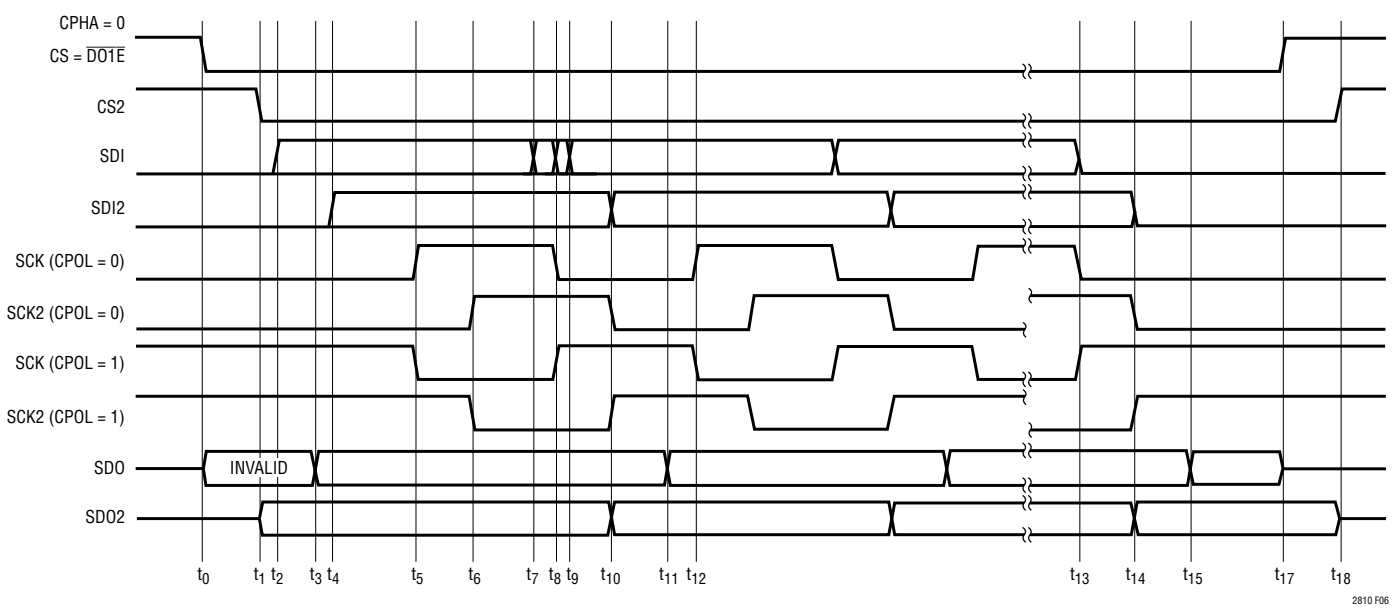
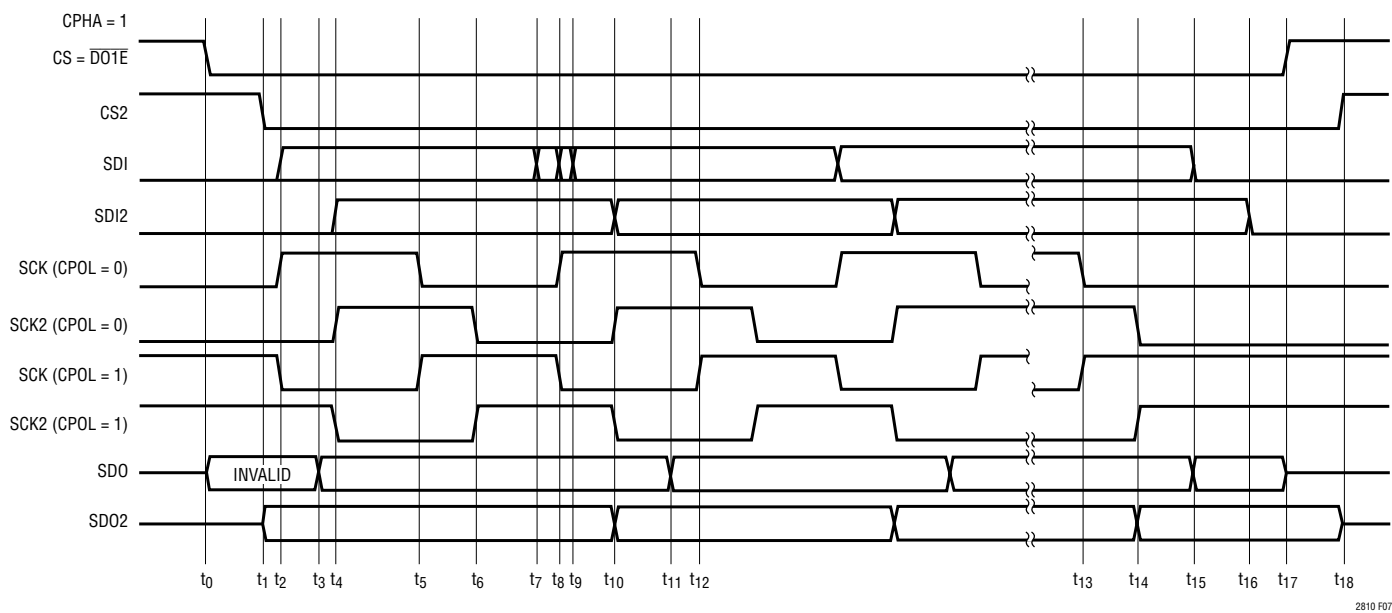
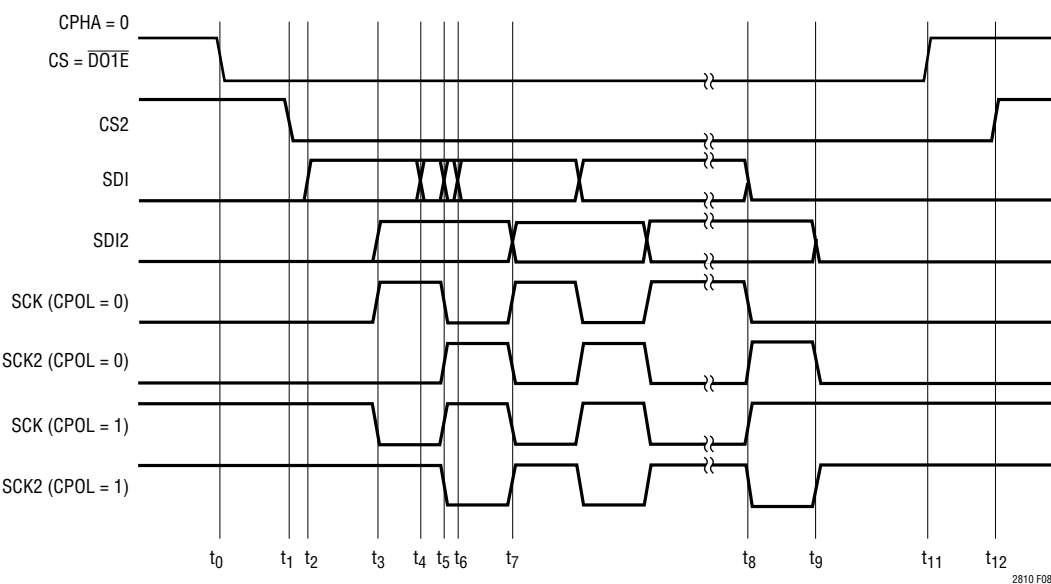
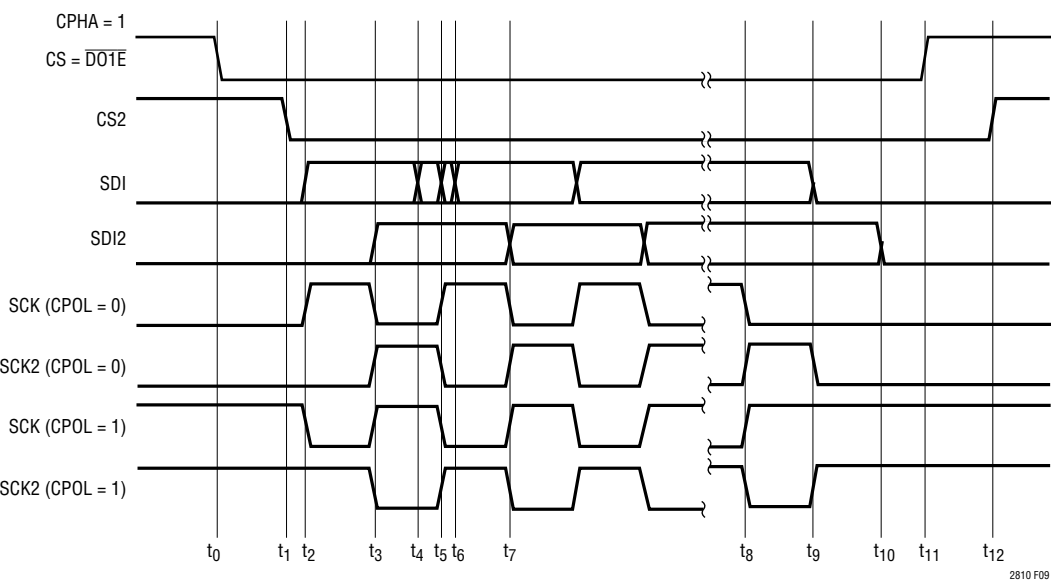

Figure 6. SPI Timing Bidirectional, CPHA = 0
Figure 7. SPI Timing, Bidirectional, CPHA = 1
Figure 8. SPI Timing, Unidirectional, CPHA = 0
Figure 9. SPI Timing, Unidirectional, CPHA = 1
The LTM2810-S provides an SPI compatible isolated interface. The maximum data rate is a function of the inherent channel propagation delays, channel to channel pulse width uncertainty, and data direction requirements. Channel timing is detailed in Figures 6 through 9, Table 2, and Table 3. The SPI protocol supports four unique timing configurations defined by the clock polarity (CPOL) and clock phase (CPHA) summarized in Table 1.
The maximum data rate for bidirectional communication is 4MHz, based on a synchronous system, as detailed in the timing waveforms. Slightly higher data rates may be achieved by skewing the clock duty cycle and minimizing the DO1 (SDO) to DI1 (SCK) setup time, however the clock rate is still dominated by the system propagation delays. A discussion of the critical timing paths relative to Figure 6 and Figure 7 follows. For SPI communication DI1 = SCK, DI2 = SDI, DI3 = CS, DO1 = SDO, O1 = SCK2, O2N and O2P = SDI2, O3 = CS2, and I1 = SDO2.
Maximum data rate for single direction communication, master to slave, is 8MHz, limited by the systems encoding/decoding scheme or propagation delay. Timing details for both variations of clock phase are shown in Figure 8, Figure 9, and Table 3.
- SDI and SCK setup data transition occur within the same data packet. Referencing Figure 6, SDI can precede SCK by up to 13ns ($t_7 \rightarrow t_8$) or lag SCK by 3ns ($t_8 \rightarrow t_9$) and not violate this requirement. Similarly in Figure 8, SDI can precede SCK by up to 13ns ($t_4 \rightarrow t_5$) or lag SCK by 3ns ($t_5 \rightarrow t_6$).